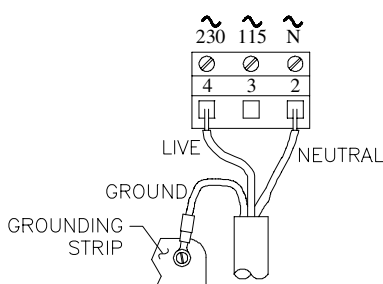

FIGURE 2-13
- *The "ground symbol" Terminal 1 on TB3 (Figures 2-13, 2-15 or 2-17) for analyzers with "A" or no letter prefix serial number.*